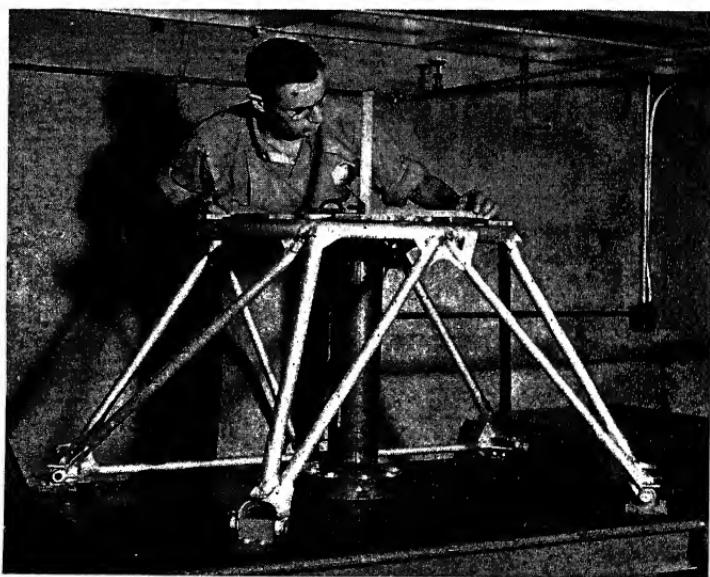
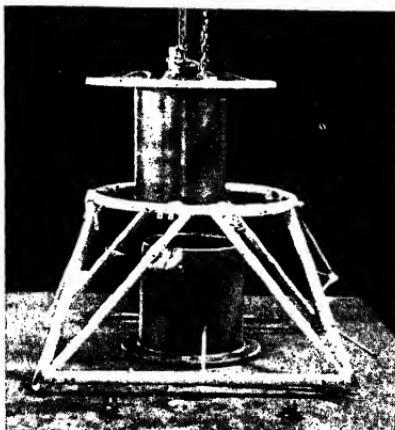

FIG. 5.—Checking alignment of an engine mount.
FIG. 6.—Another method of checking engine mounts. This is used at San Diego Naval Station. (*Official U.S. Navy Photograph.*)
**Engine Mounts.**—Alignment of engine mounts is very important. Before they are put on a plane, they are checked for accuracy on the fixture in Fig. 5.
In Fig. 6 there is a somewhat similar but more generally used centering device than that in Fig. 5. This large surface plate has numerous holes